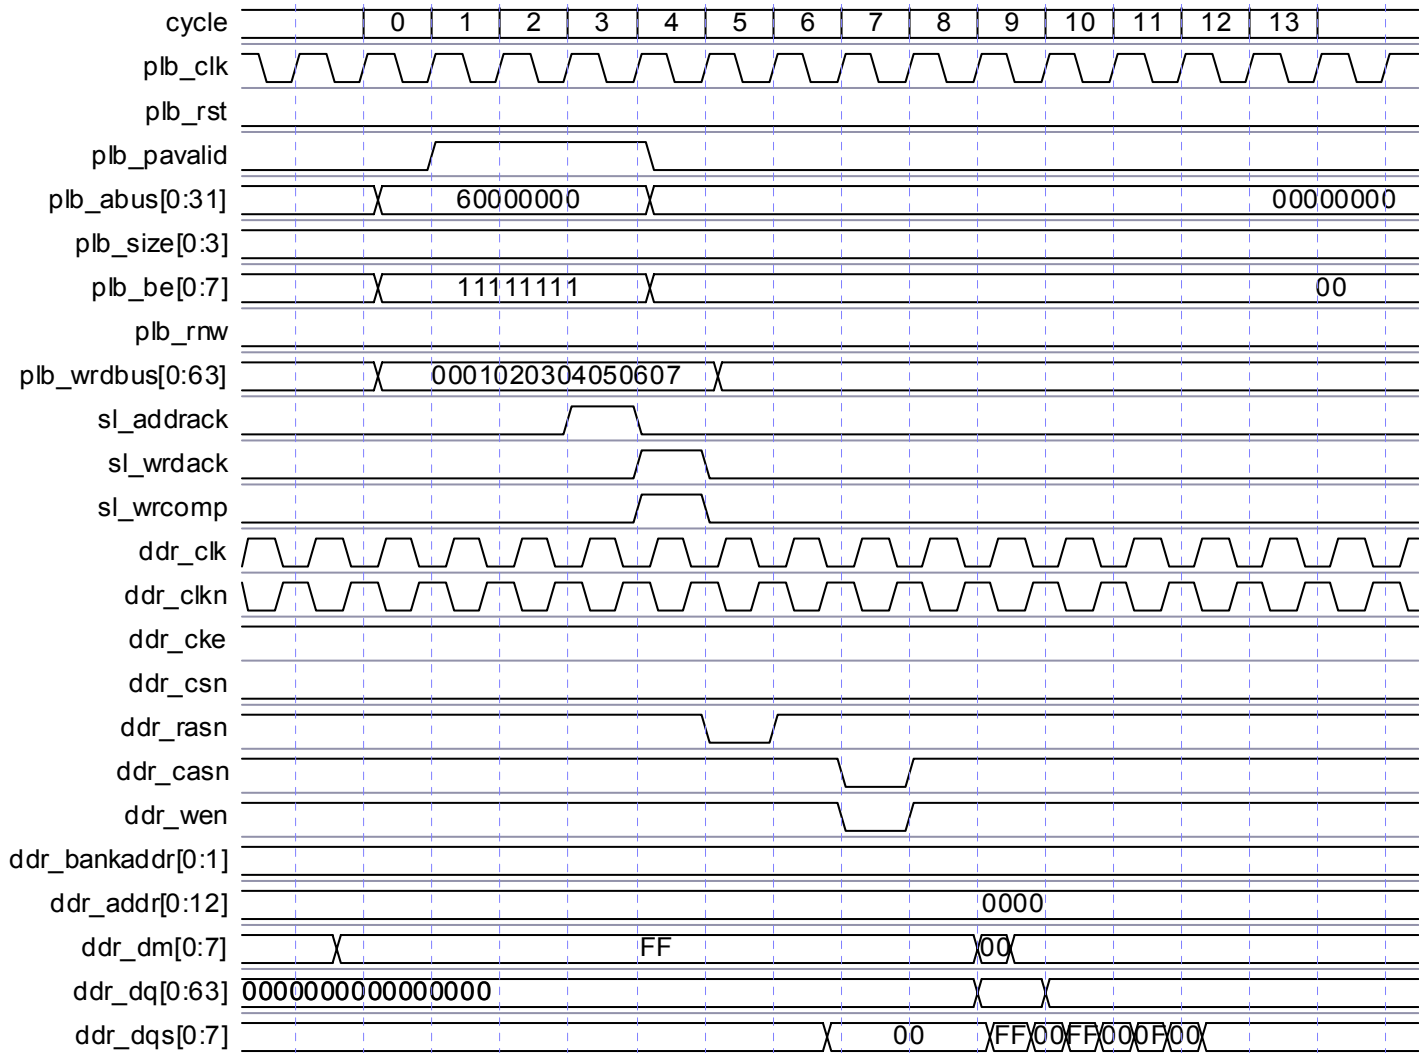

Figure 18: Single Double Word Write Transaction with Bus2IP\_Addr(28)='0'
If Bus2IP\_Abdr(28) is zero then the data will be written on the positive edge of the clock and the data on the negative edge of the clock will be masked **Figure 18**.